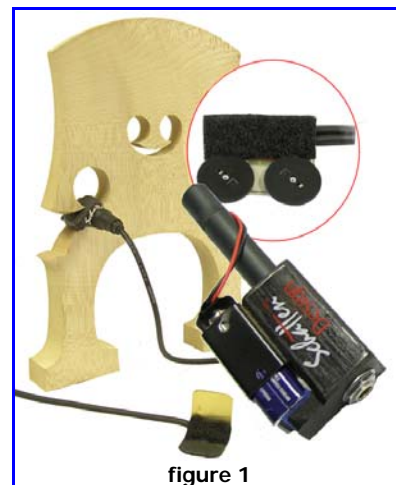

figure 1
1) The RB sensor is designed to fit in the wing slot of a bass bridge. Normal placement for the sensor is in the bass side slot as shown in figure 1. For RB-2 and RB-2A models the sensor is still mounted in the bass side slot but the lead wire should extend towards the fingerboard.